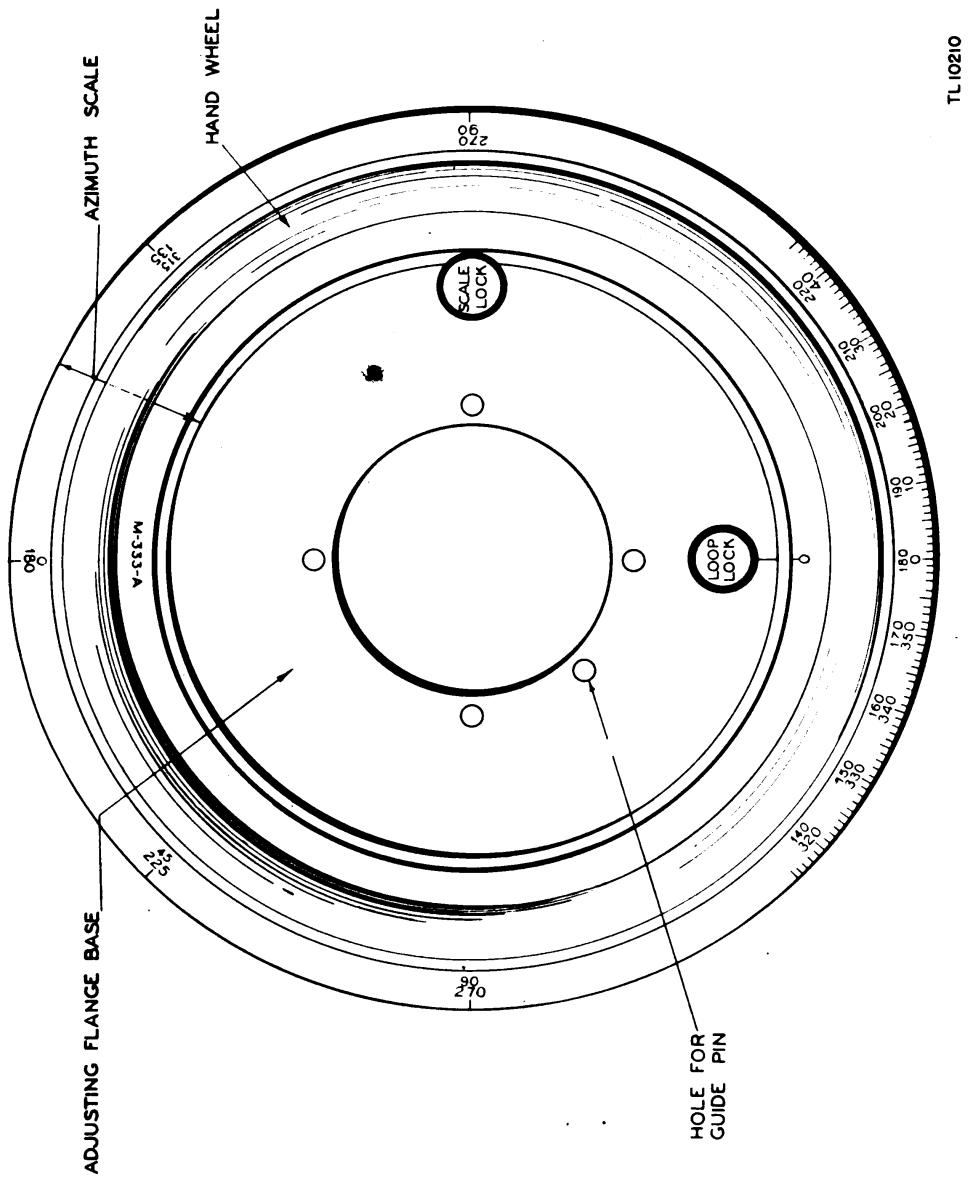

Figure 10. Azimuth Scale M-333-A and flange base, showing adjustments for loops and scale.
t. Release the knob marked LOOP LOCK by lifting it until the guide pin is clear of its hole and then turn the knob in either direction (fig. 10).